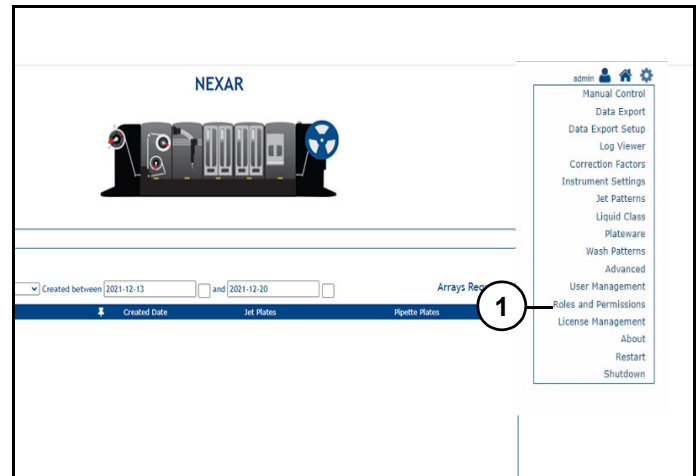

Figure 37
Roles and Permissions (1) (Figure 37): Opens roles and permissions page.
Licence Management (1) (Figure 37): Opens licence management page (only active under certain software license).